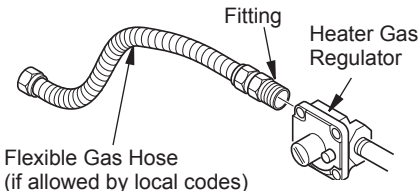

Figure 10 - Attaching Flexible Gas Hose to Heater Gas Regulator
1. Apply pipe joint sealant lightly to male threads of fitting to be threaded into gas regulator. Connect approved flexible gas hose to gas regulator of heater (see Figure 10).